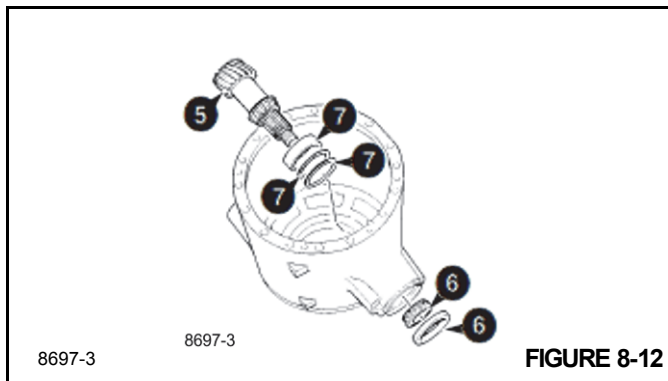

FIGURE 8-12
5. Using a soft faced hammer, hit the pinion end shaft until the pinion is free from its front bearing, then withdraw the pinion (Figure 8-12).